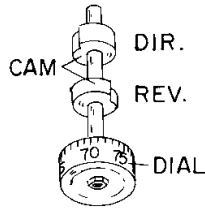

Fig. 5
4. Reinstall the cam assembly and the two cam assembly clips. **Note: To identify the proper cam relative to the action, take note of the rise of the cam (see Fig. 5).**